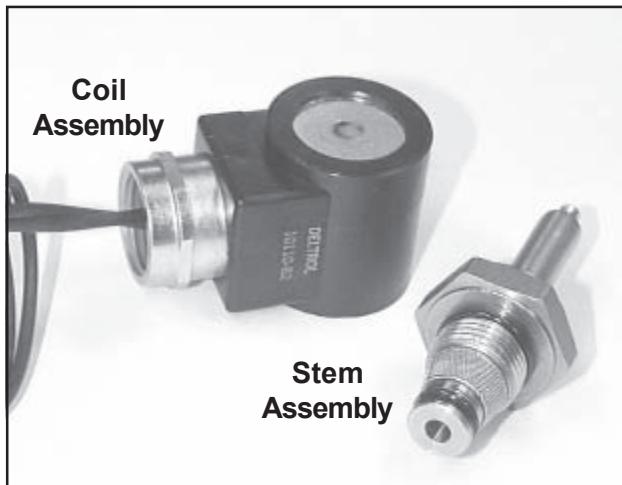

Figure 47. Components of Replacement Solenoid Valve, P/N 854605
Note: The replacement solenoid (P/N 854605) includes two parts: the coil assembly, and the stem assembly (Figure 47). If the problem in the solenoid lies in the coil assembly, it is not necessary to replace the stem assembly.
3. Place the cable into the cable retainer and re-mount the retainer in the tray (Figure 47).